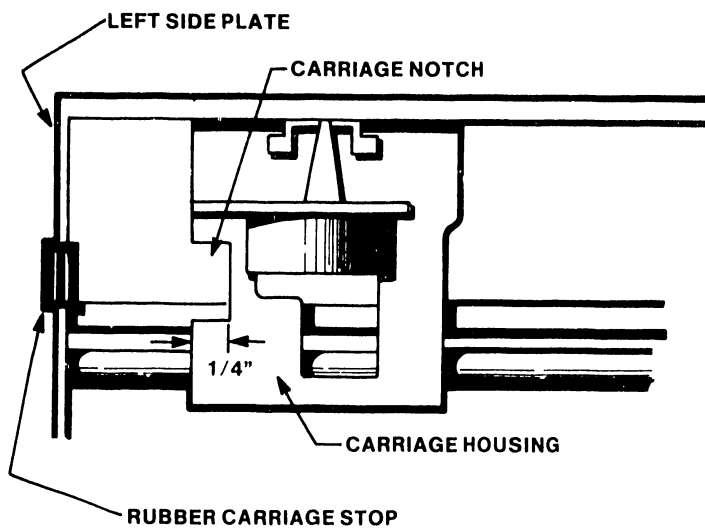

Figure 5-3A Carriage Notch
NOTE: For printers with a notch on the carriage housing verify that the notch is $1/4''$ and not $1/8''$ as shown in Figure 5-3A. If the notch measures $1/8''$ perform the following steps.
- c. Using a metal file increase the notch to $1/4''$ as shown in Figure 5-3A.